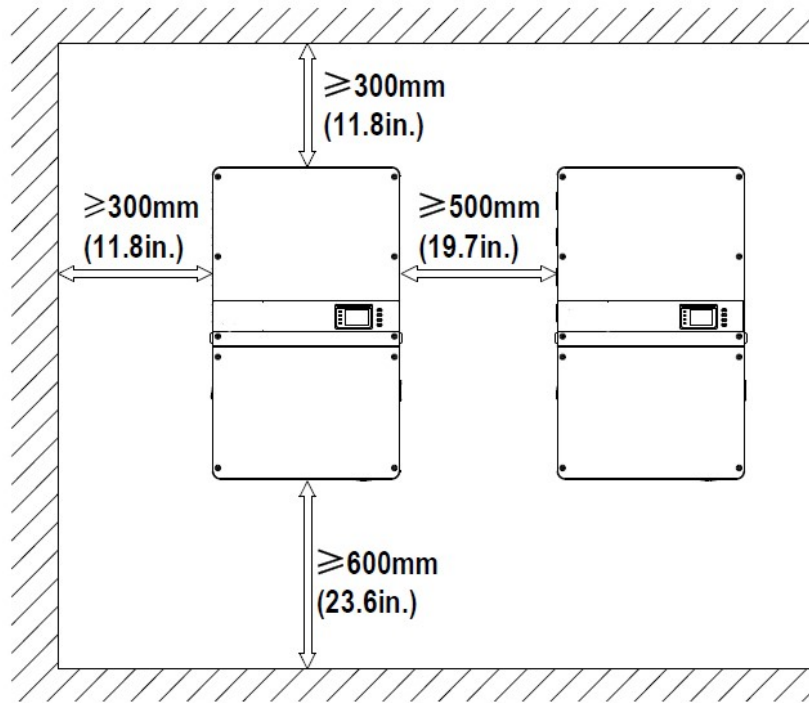

Figure 3-3 Inverter Minimum Spacing and Clearance Area
- Sufficient space according to Figure 3-3 must be provided to allow the inverter cooling system to operate effectively.
It is important to allow ample spacing for ventilation, wire management, and service. The minimum spacing requirements are shown in Figure 3-3. Always keep the clearance area free from debris, plants, and other obstructions.